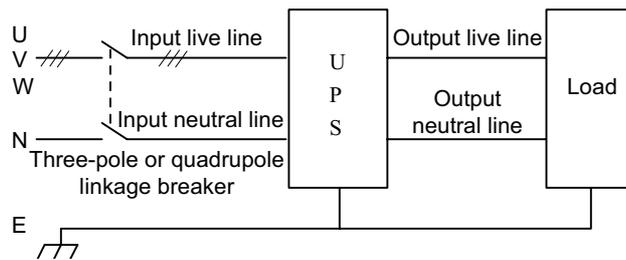

Figure 2-13 Correct power distribution method
4. Install a three-pole or quadrupole linkage breaker on the mains input neutral line and live line to facilitate cutting power in emergency. Adopt correct power distribution method (see Figure 2-13) to ensure safety of the UPS and loads.